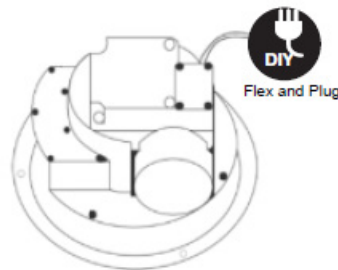

Figure 2: Connect the power
- Plug the cable into the power point socket in the ceiling (see figure 2)